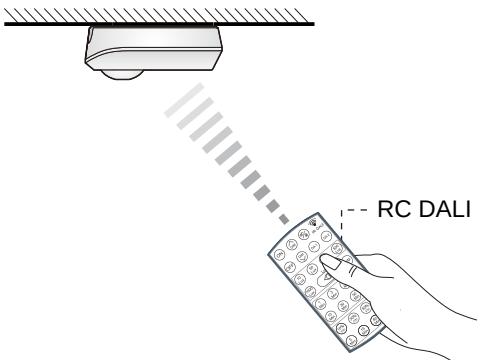

FIG.19
- 6.1 For easy and safe setting operations, it is highly recommended to purchase our high quality IR remote controller RC DALI together with KDP DALI GA10 (See FIG.19).